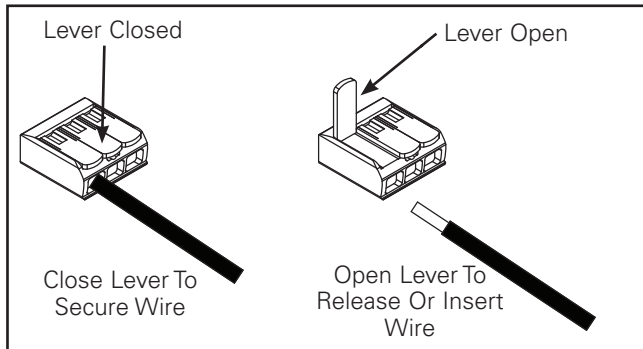

Figure 16
4. Connect supply lead wires to junction box lead wires (line, neutral and ground) in the fixture using the provided lever nut connectors. (Figure 16). Be careful not to leave any bare conductors outside of the lever nut connectors.
5. Lift the orange tab on the lever nut to disengage the wire and close to secure the wire in place. (Figure 16).